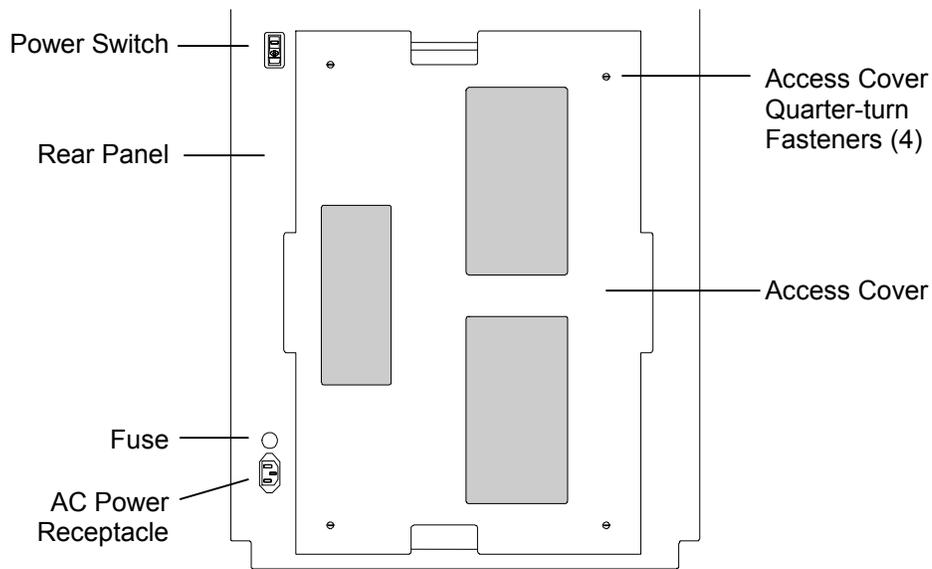

Figure 5-15 TLS Rear View – Model 6430 Shown
2. For models 54xx, 58xxx, 64xx, 68xxx, 84xx and 88xxx the access cover(s) must be removed to enter the Drive Bay area. Use a flat blade screwdriver to loosen all four of the quarter-turn fasteners and carefully remove the access cover(s) (Figure 5-15).
After the SCSI connections have been completed on models 54xx, 58xxx, 64xx, 68xxx, 84xx or 88xxx the access cover(s) must be replaced. Align the covers four quarter-turn fasteners with the corresponding receptacles on the rear panel of the TLS, then using a flat blade screwdriver tighten the fasteners to secure the cover (Figure 5-15).